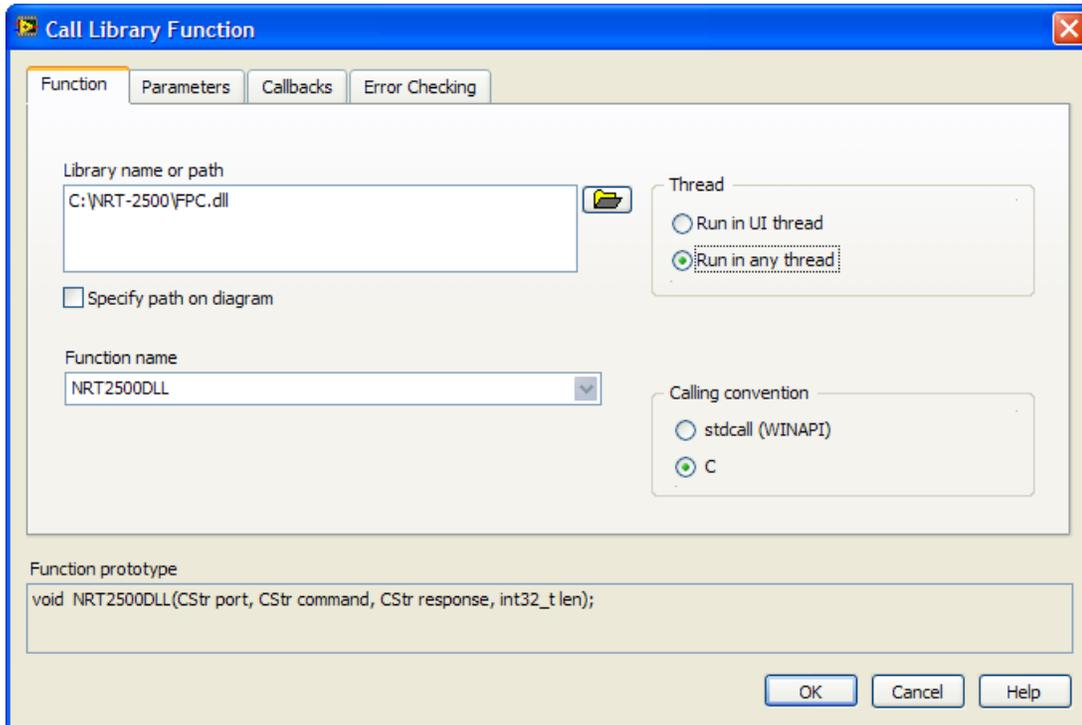

Figure 2. Setting up the parameters for calling the Library Function
- 2) Point your cursor on the library node, click on the Right mouse button and select **Configure** (see Figure 2). Enter the Library name or path by browsing to the library folder, and select the Function name from the scroll-down list. Select the thread option; Select **Run in UI** if you call only a single instance of the DLL. If you want to call the DLL more than once simultaneously, select **Run in Any Thread**. Press the OK button to continue.